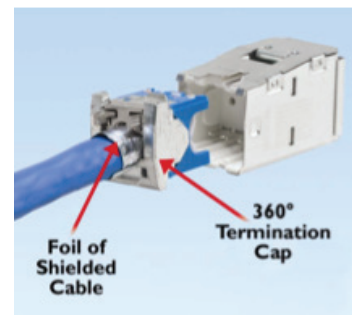

Figure 4.3-20. PANDUIT Shielded Cable and Jack Module Termination
1. Bond all the shielding (foil and/or braid) of the data cable to the shielded jack module, which provides 360° shielding termination, as shown in Figure 4.3-20.